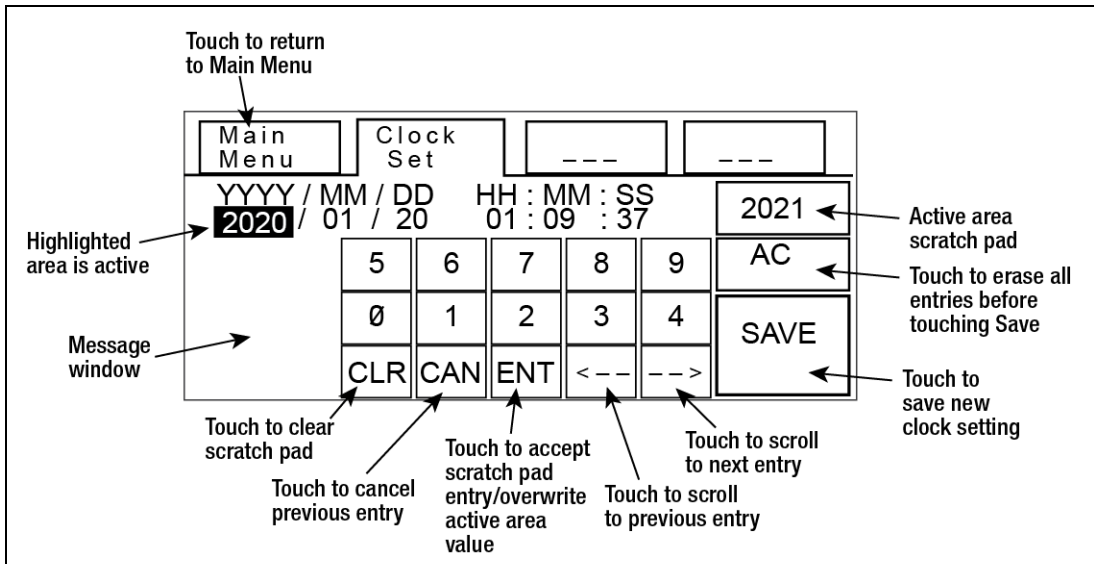

Figure 26. Clock Set Page
5. On the Clock Set page, observe the button functions in Figure 26 to reset the date and time. Touch the number buttons to enter date/time.